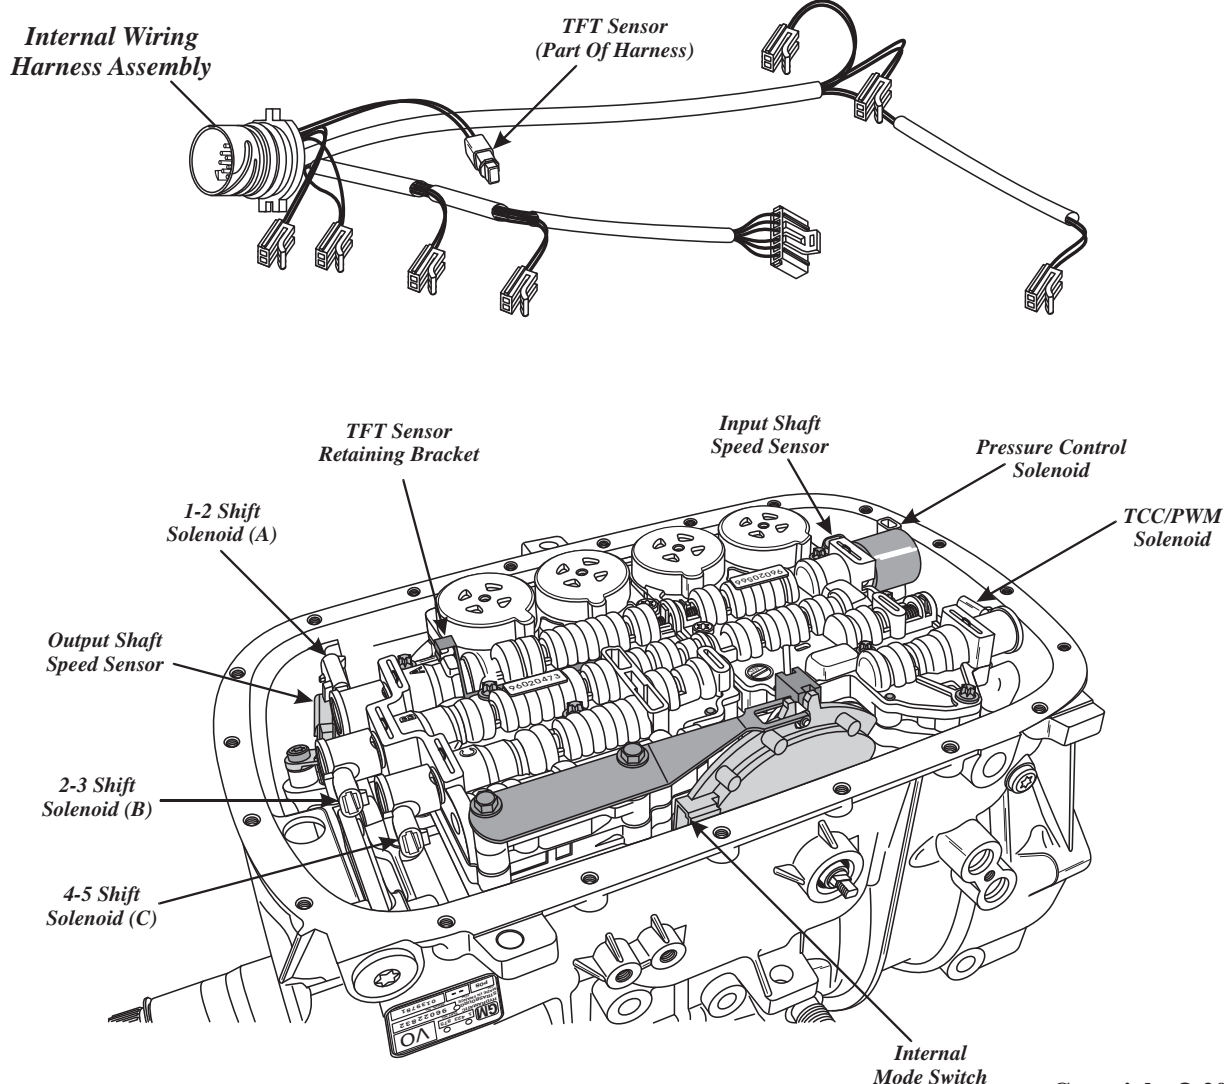

Figure 38
26. Using a small screwdriver, carefully remove the wire harness connectors from all of the following components: (See Figure 38)
27. Remove the Internal Wiring Harness assembly from the transmission, as shown in Figure 38, and set aside for component rebuild.